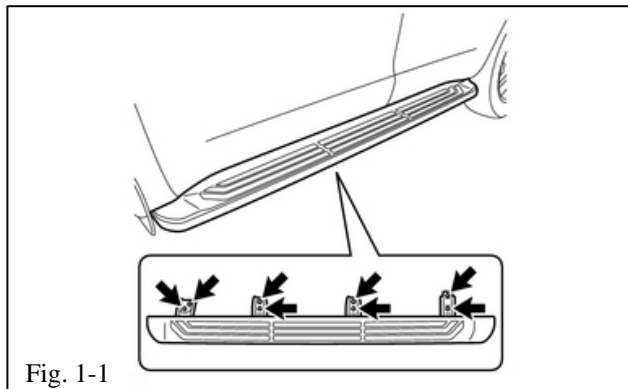

Fig. 1-1
- (a) Remove the 8 bolts and side step from both sides of the vehicle (Fig. 1-1).